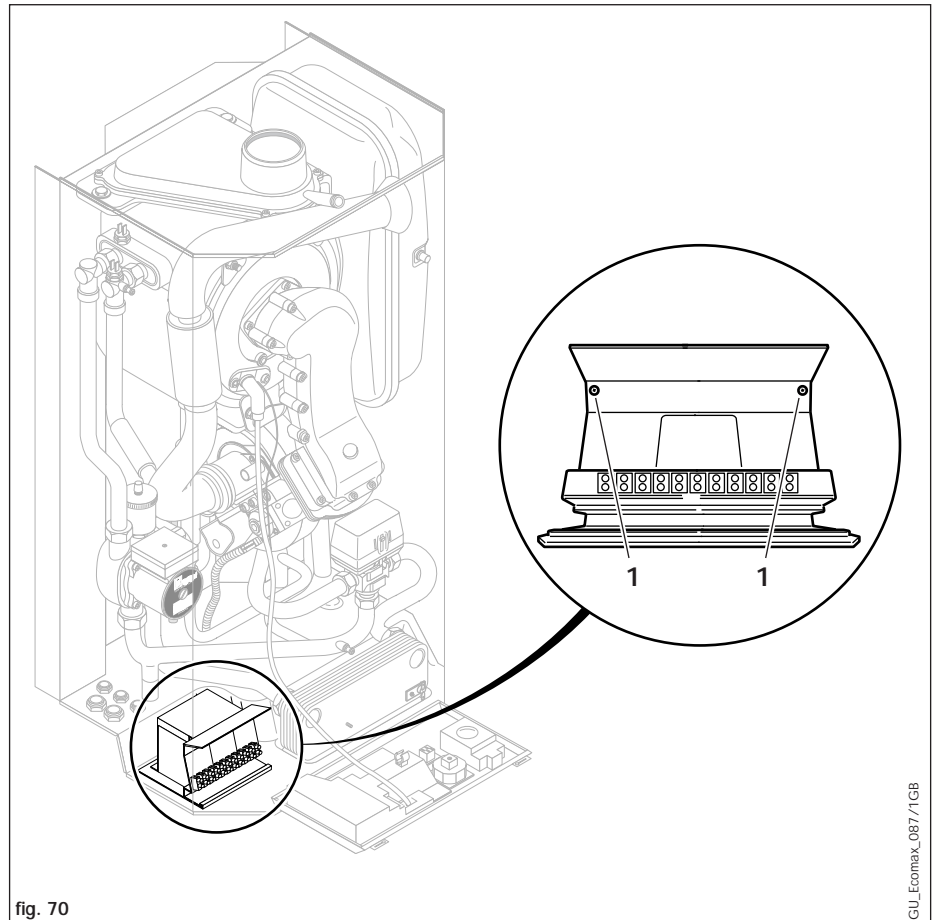

fig. 70
7.11 REPLACEMENT OF MAIN TRANSFORMER (FIG. 70)
- Remove two screws (1, fig. 70) from transformer housing.